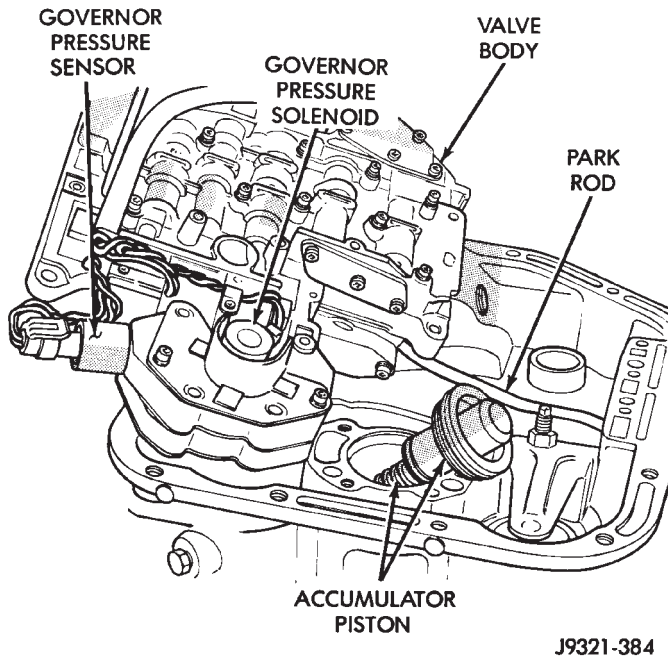

Fig. 134 Accumulator Piston And Springs
(30) Install accumulator piston and inner and outer springs (Fig. 134).
(31) Verify that valve body solenoid harness is secured in 3-4 accumulator housing cover plate.
(32) Install valve body as follows: